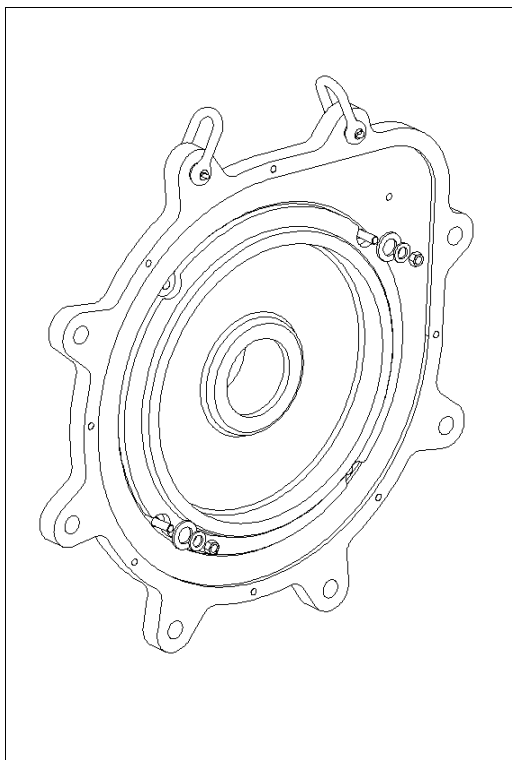
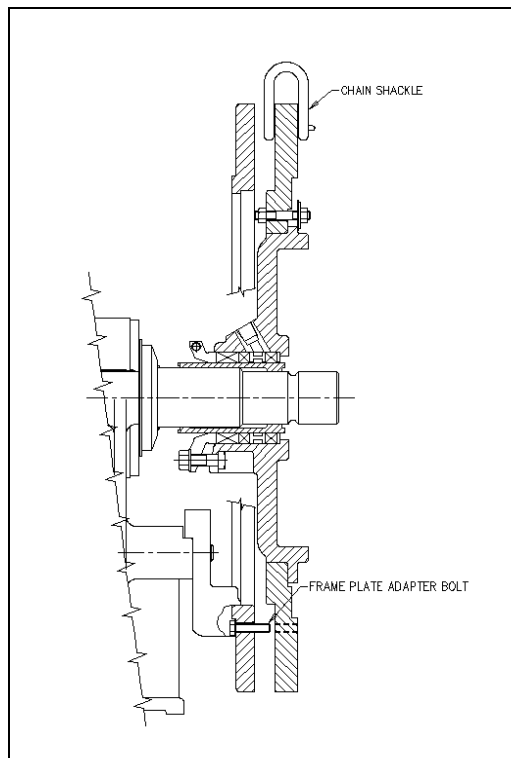

Figure 5-13
Figure 5-14
8. Using two studs, hex nuts and two sizes of flat washers, bolt the frame plate and expeller ring together. **Note: the larger flat washer must capture the expeller ring / stuffing box as shown in Figure 5-14.** Attach two chain shackles through the top ears on the frame plate. Lift the expeller ring assembly using a hoist. (Refer to Figure 5-13)
- a. Slide expeller ring assembly onto bearing shaft until the chain shackles butt up against the frame plate adapter. Remove chain shackles and tap into position with a mallet. Attach the two frame plate adapter bolts. (Refer to Figure 5-14)